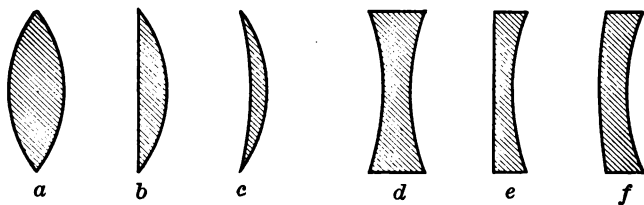

FIG. 160
Fig. 160 shows the *six* possible shapes of lenses made by combining these three surfaces. The figures are of course cross sections. Of the lenses, *a* is called *biconvex*, having its two faces convex or curved outward; *b* is
**227. The Effects of Lenses.** — The lenses *a*, *b*, and *c* in Fig. 160 may be classed as “convex,” and *d*, *e*, *f* as